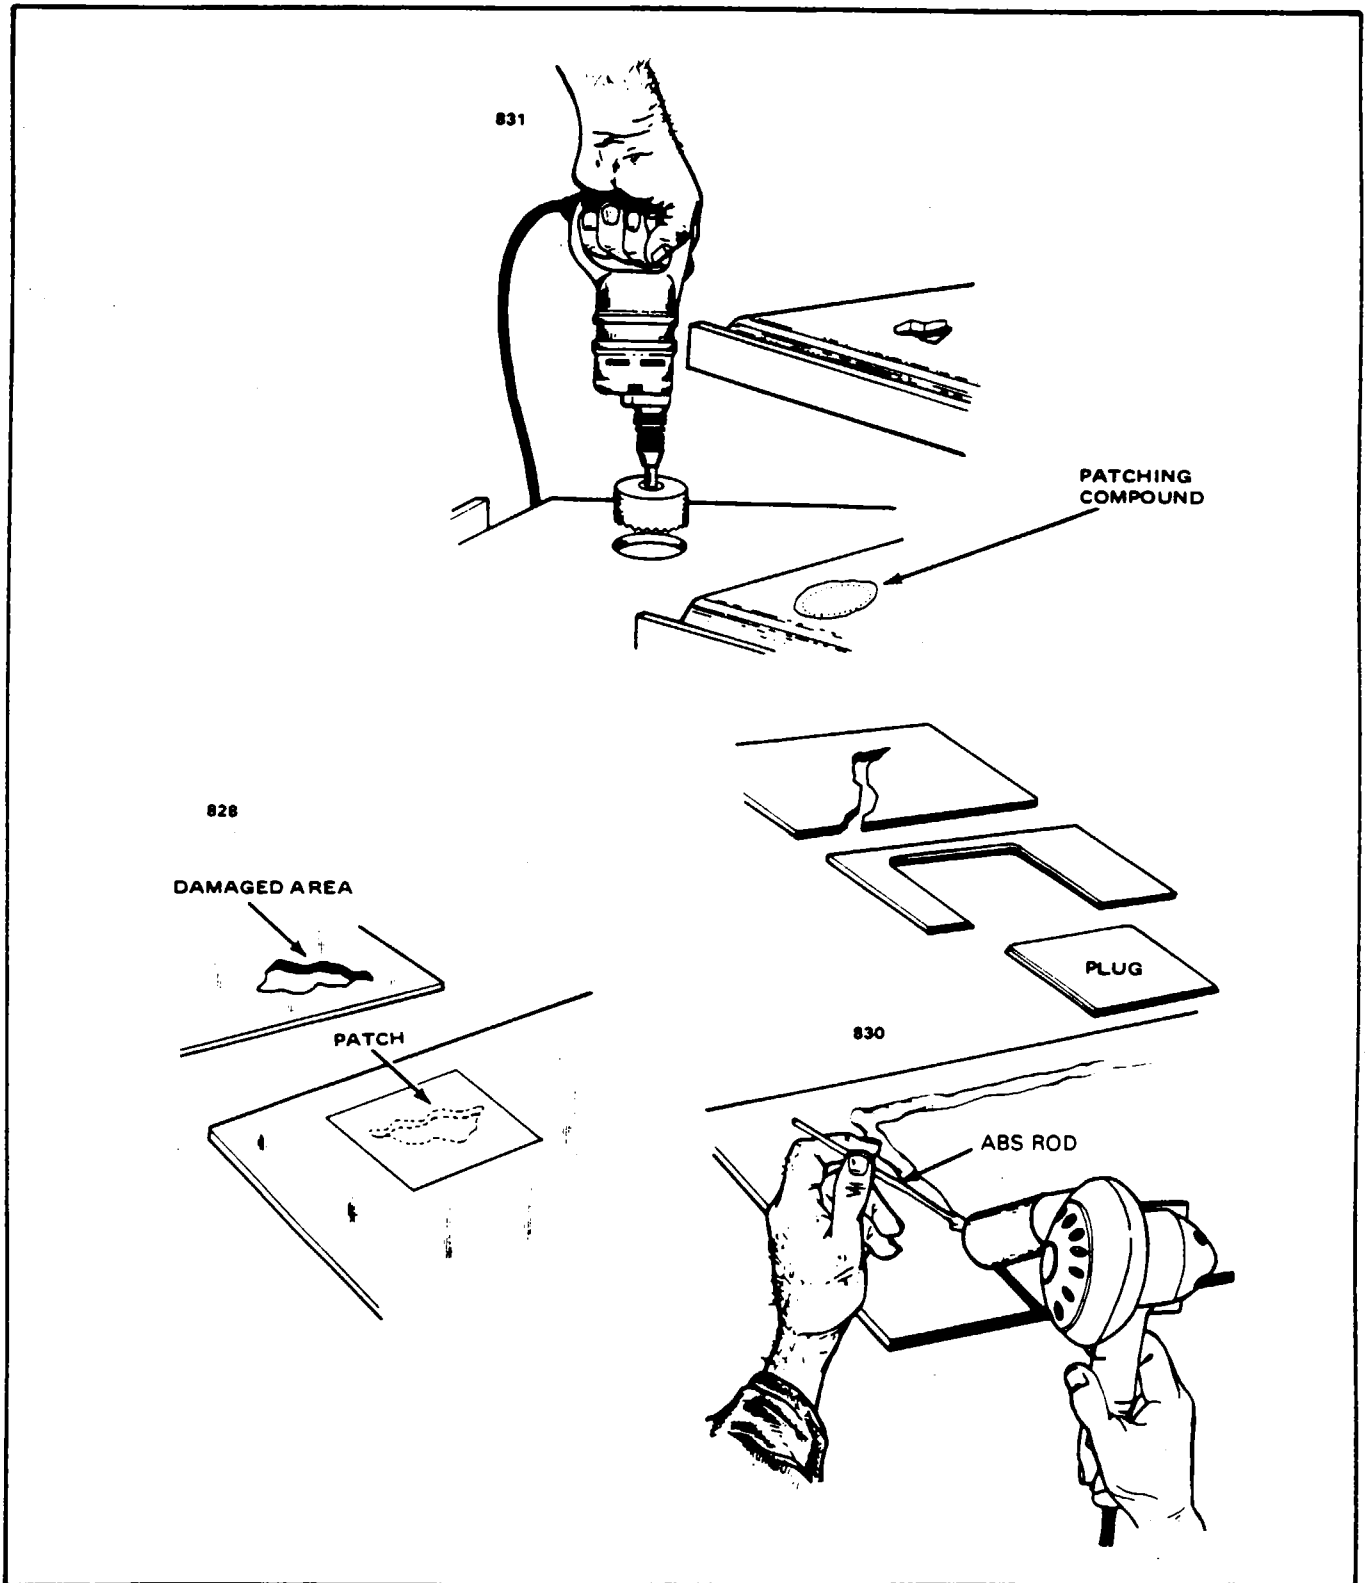

Figure 4-28. Various Repairs
- e. Repairing Major Damage: (Larger than 1 inch in diameter.) (Refer to Figure 4-28.)